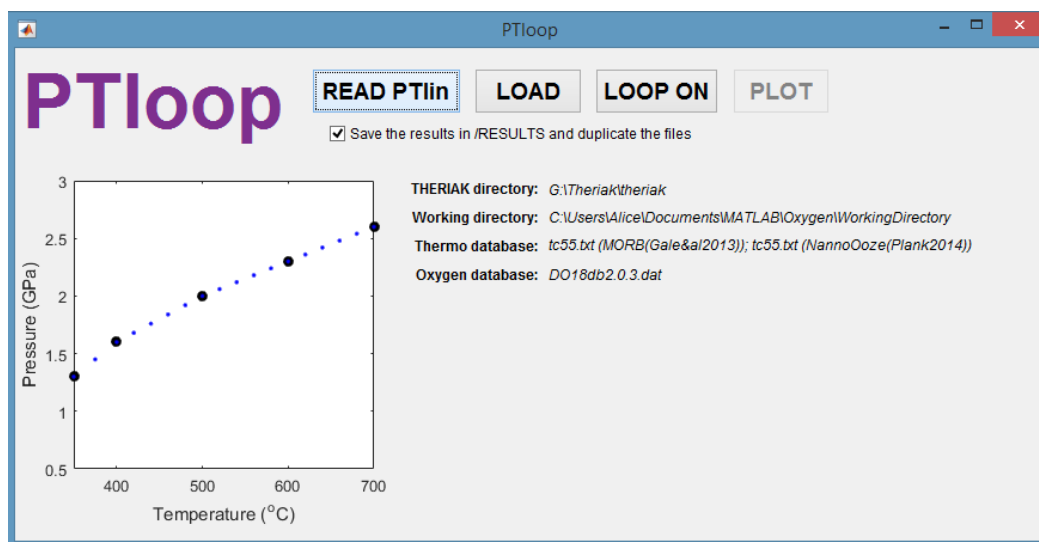

Figure 9.
3. Press "READ PTlin". The defined P-T path and additional parameters are shown (Fig. 9). If you want to modify anything, open the file PTlin.txt, modify it, save it, close it and press again "READ PTlin".